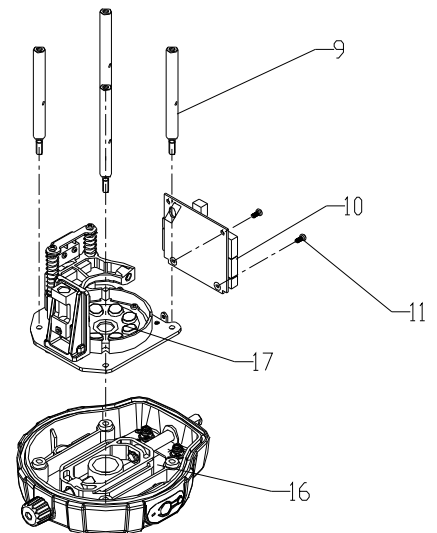

Figure 11
1. As shown in figure 11, remove main control board (10#) by removing the 2 crosshead plate screws M2.5×6 (11#).